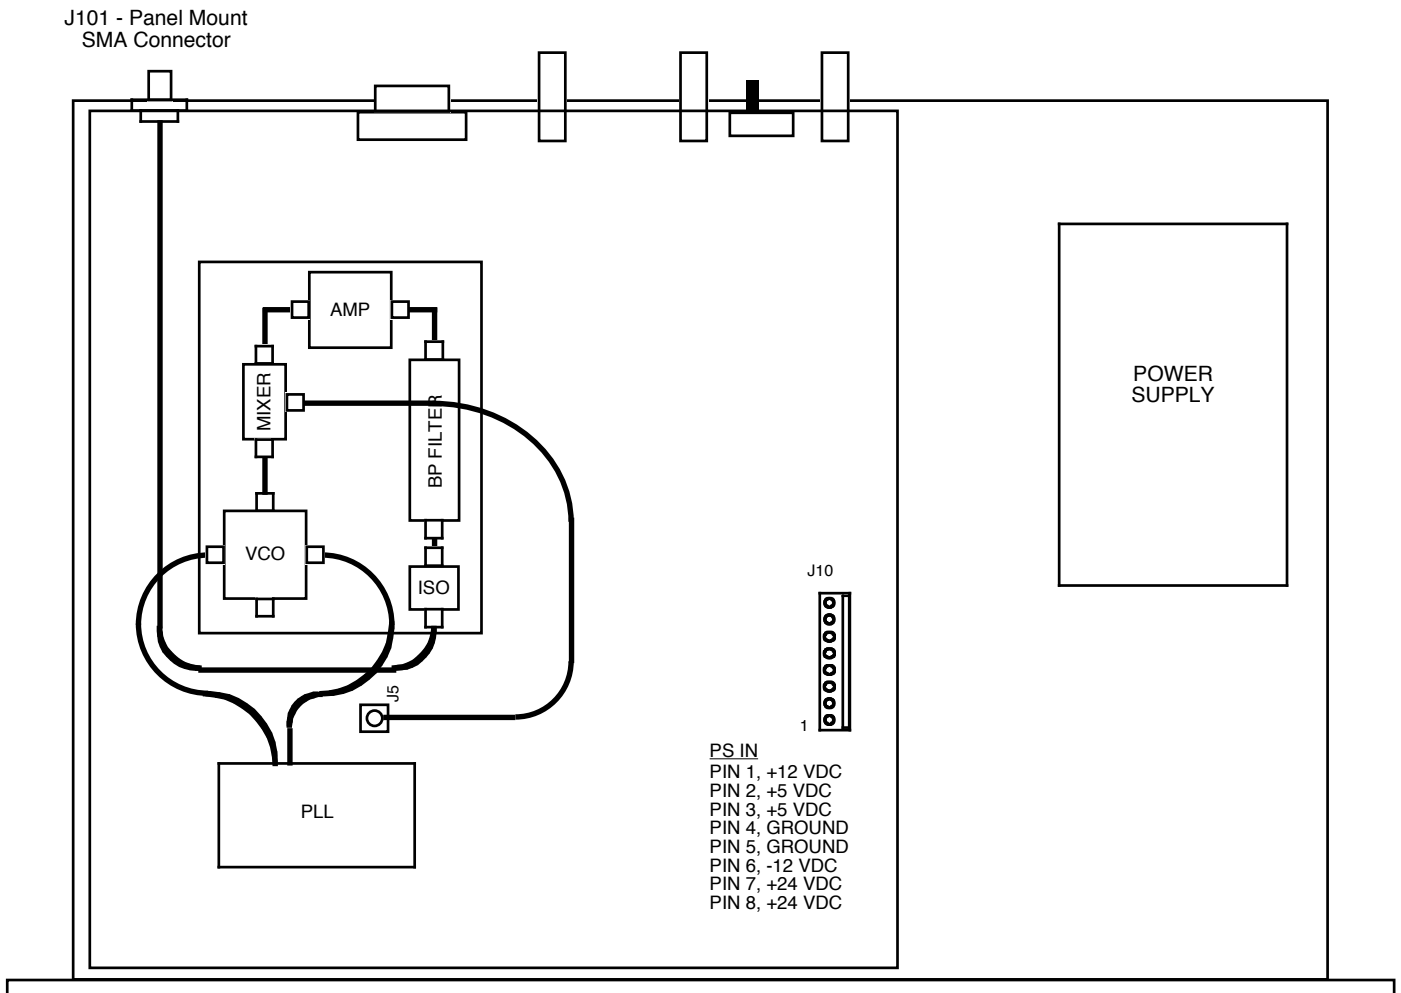

FIGURE 2.0 2116-139 Mechanical Assembly
2.1 Mechanical - The 2116-139 consists of one RF PCB housed in a 1 RU (1 3/4 inch high) by 12 inch deep chassis. A switching, ± 12 , +24, +5 VDC power supply provides power for the assemblies. The 2116-139 can be secured to a rack using the 4 holes on the front panel. Figure 2.0 shows how the 2116-139 is assembled.